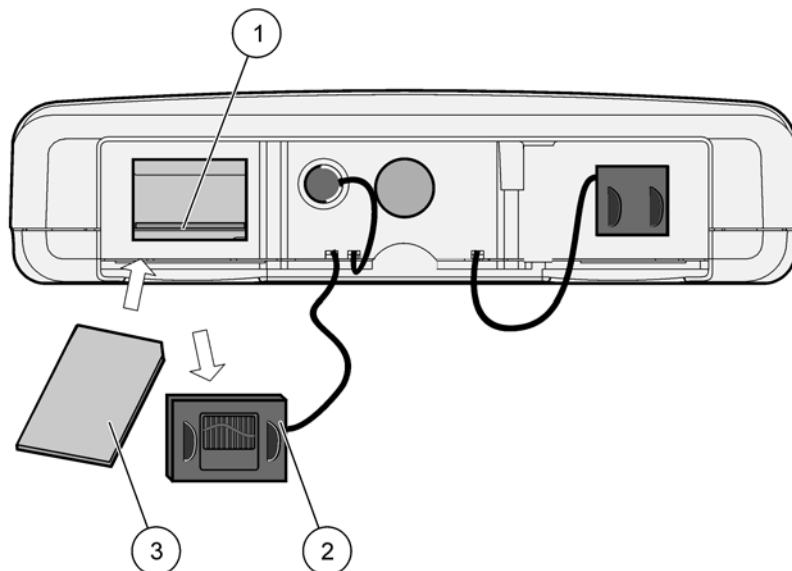

Figure 37 Insert the storage card to the display module
**To insert the storage card into the display module (Figure 37):**